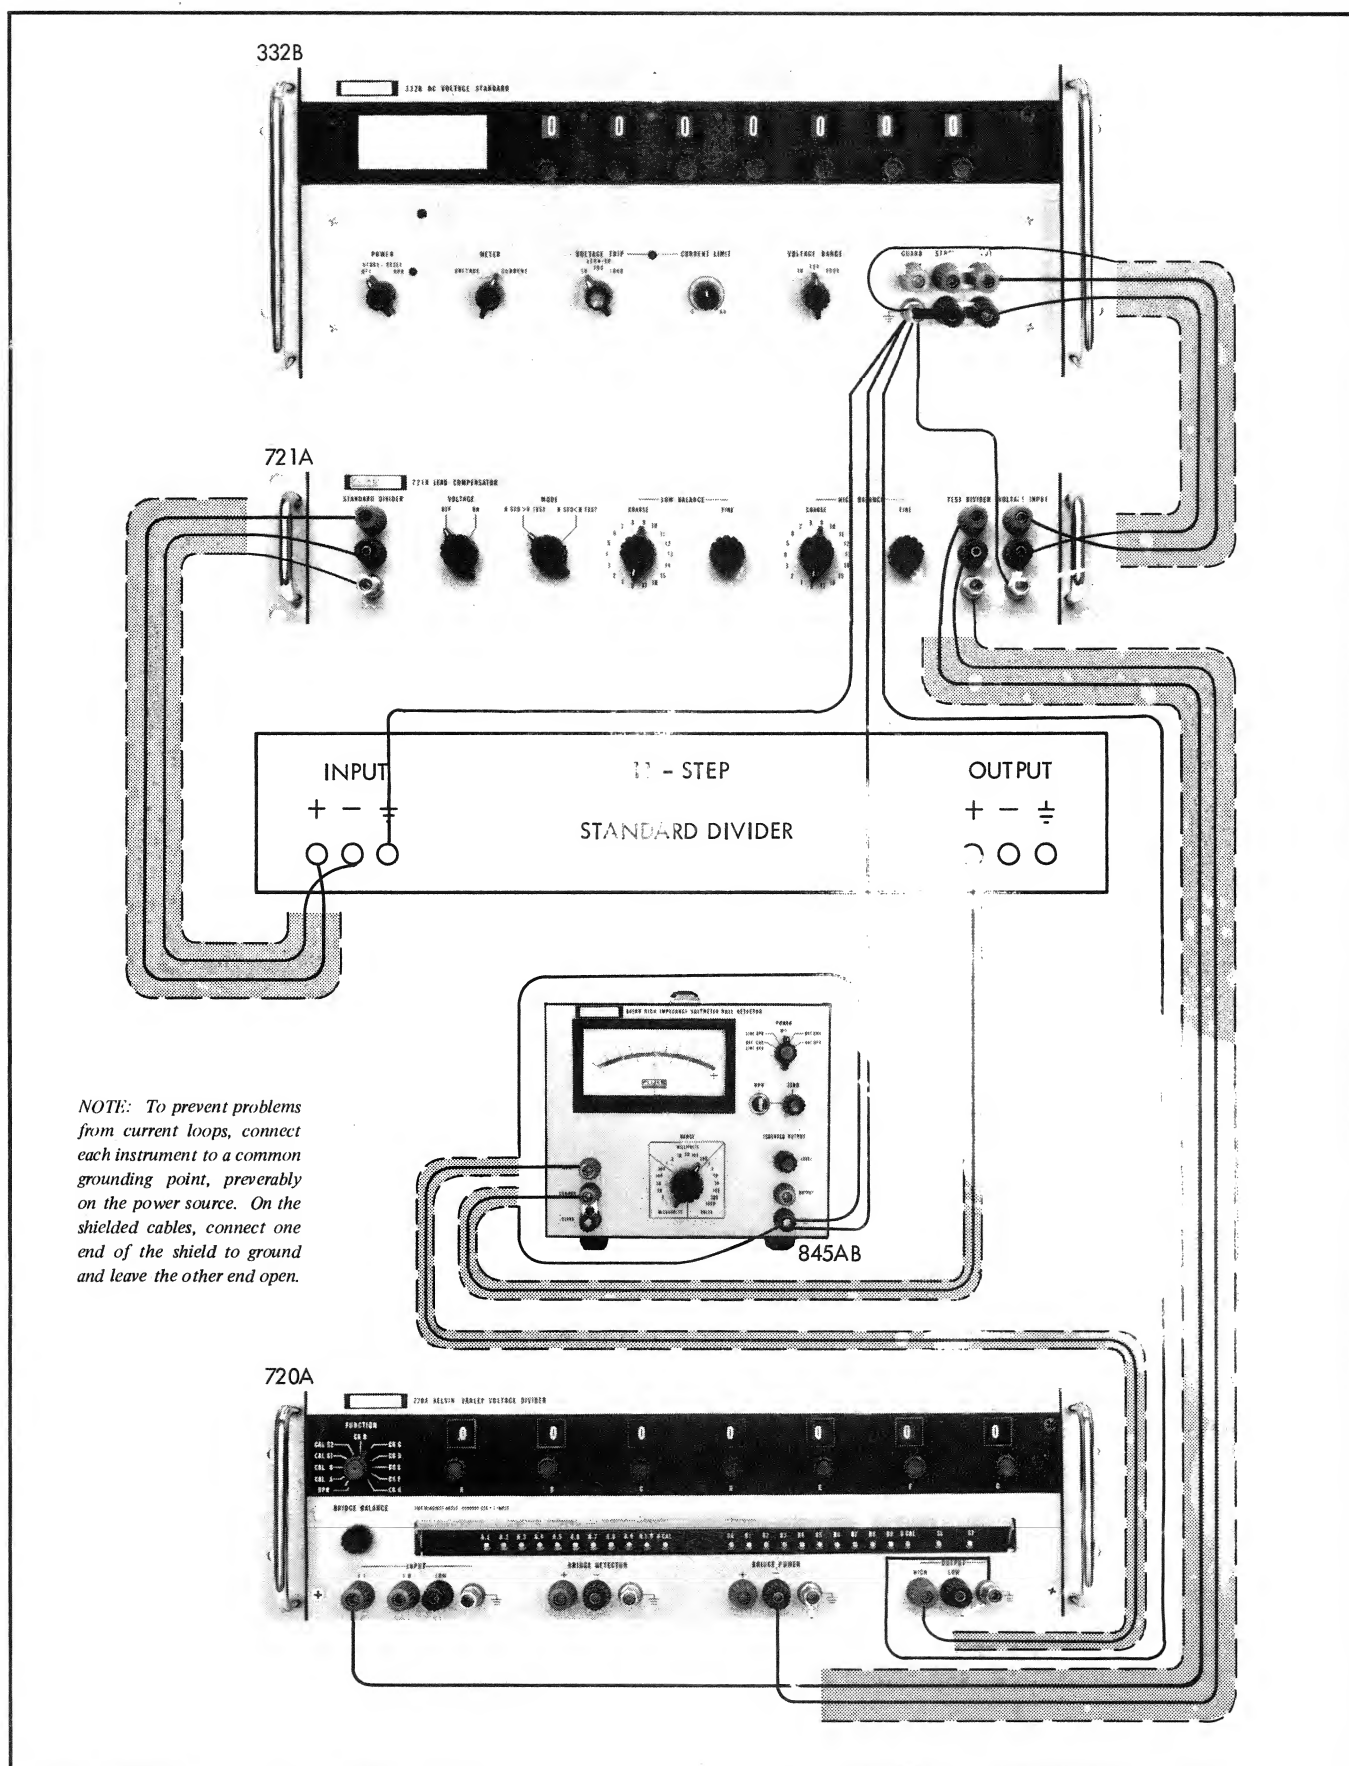
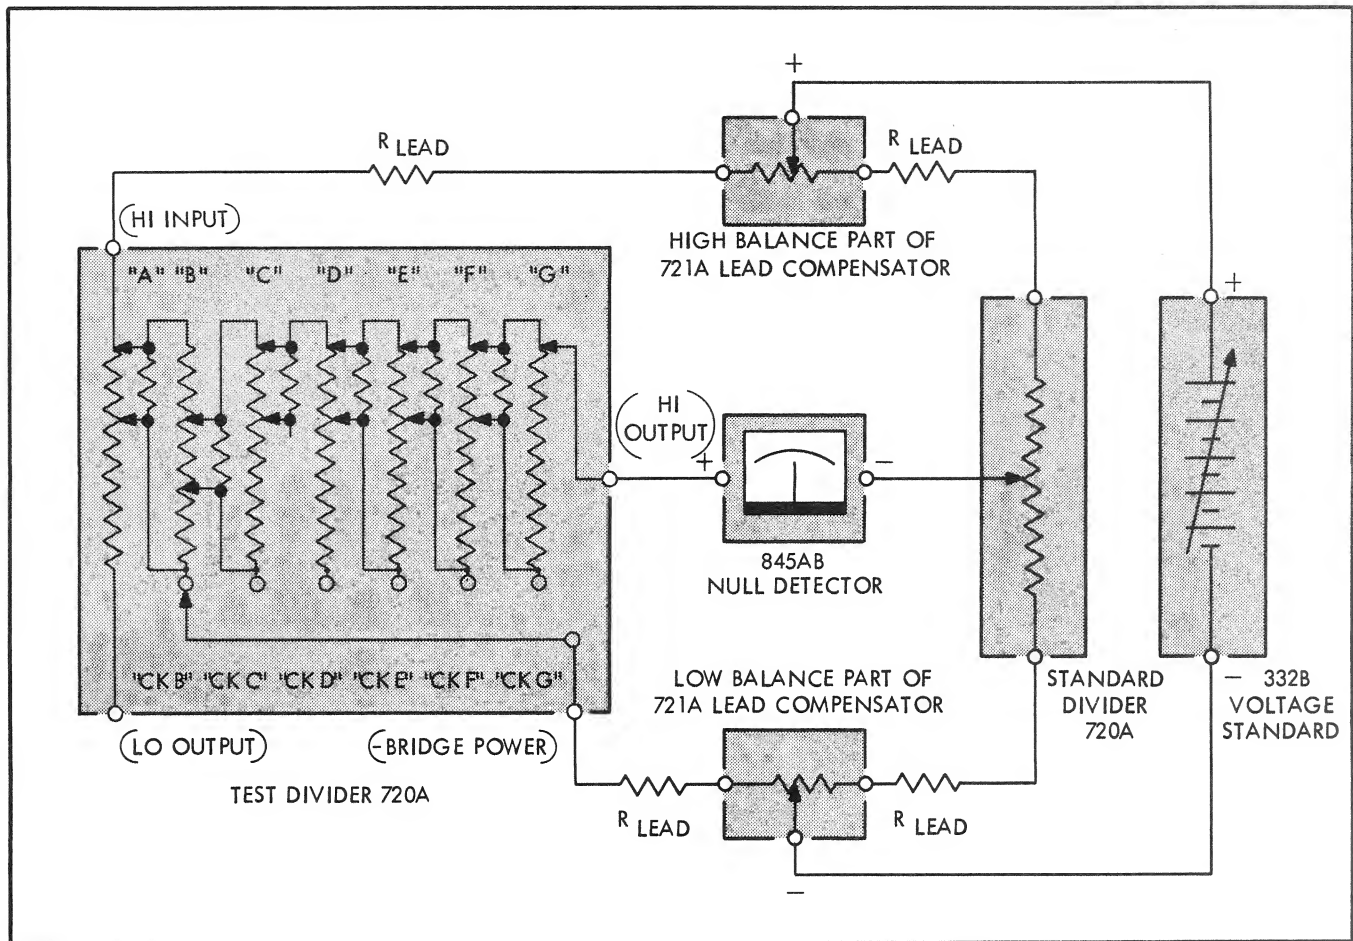

Figure 4-5. EQUIPMENT CONNECTIONS FOR DECADE LINEARITY TEST
Figure 4-6. SIMPLIFIED SCHEMATIC DIAGRAM OF DECADE LINEARITY TEST
- a. Change the test setup to that shown in Figure 4-5.
*Figure 4-6 is a schematic diagram of the test set-up obtained by interconnecting the equipment as shown in Figure 4-5.*